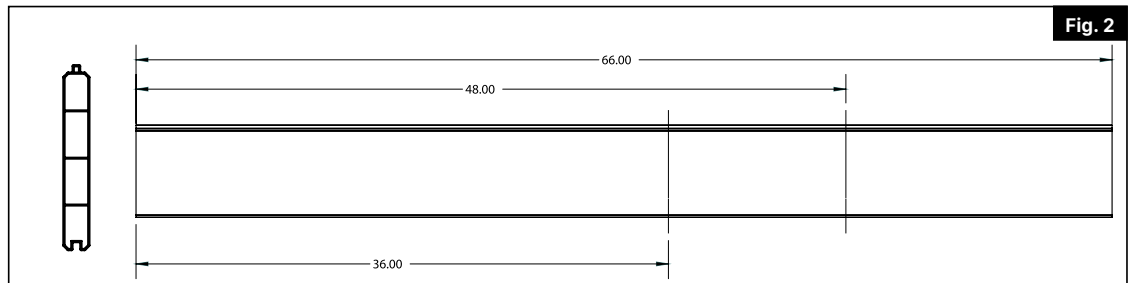

Fig. 2
drive gates (Fig 2).
Cut back infill to 36" for horizontal walk gate (Fig 2).
2. Place rail brackets on rails. For mid rail attach the bracket to the end of the rail using the bottom holes with 4 #10 x ¾" screws. Note: Install the mid rail bracket so that the brackets are orientated with the larger end facing up. This is critical for proper assembly of the DSP panel (Fig. 2).